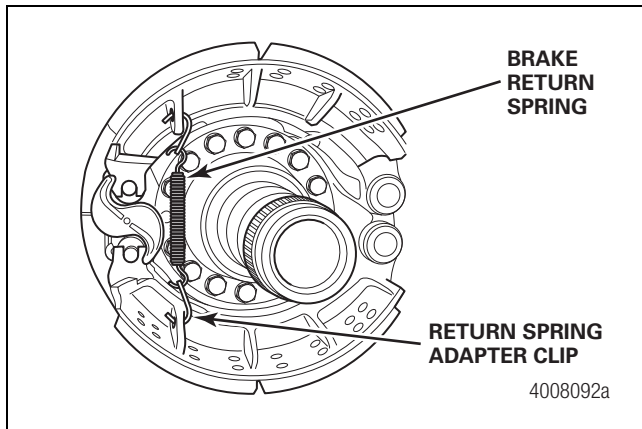

Figure 3.7
8. Disconnect the brake return spring and clips. Figure 3.7.